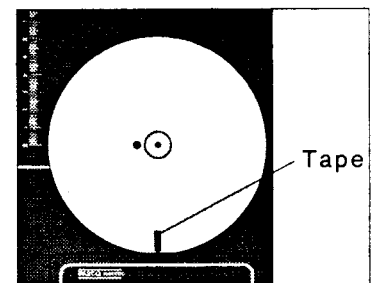

Figure 1.2 Placing the Tape
- ① Place a narrow piece of tape on the top of the top disk, at some point near the rim (see Figure 1.2).
- ② Give the disk a gentle spin (again to about 100-200 Hz), and record the initial reading on the digital display (R_i).
- ③ By watching the tape, count the number of revolutions of the disk in some specified time interval, about one minute. Record the number of revolutions as N and the time interval as t . At the end of the time interval, record the final reading on the digital display (R_f).
- ④ From your data, calculate the total angle θ , in radians, through which the disk rotated during the time t : $\theta = 2\pi N$. From this, determine the average angular velocity (ω_{avg}) of the disk during the time t ($\omega_{\text{avg}} = \theta/t$).
- ⑤ Calculate the average display reading during the time t : $R_{\text{avg}} = (R_f + R_i)/2$.
- ⑥ Using your calculated values, determine a constant κ , that relates the average display reading to the average angular velocity ($\kappa R_{\text{avg}} = \omega_{\text{avg}}$).
- ⑦ Repeat the experiment a few more times. How accurate does your measured value of κ seem to be?